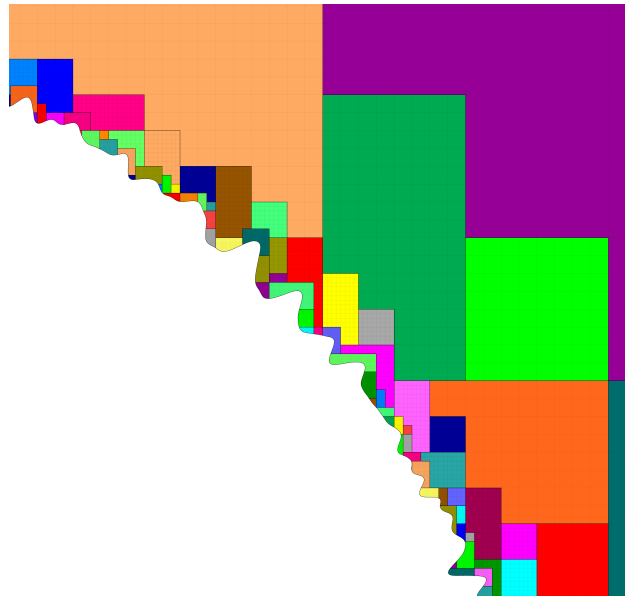

Fig. 3.1.2: Patch-based refinement (factor 4 between levels) of a complex surface. Each color shows a patch, which is a rectangular computational unit.
chombo-discharge uses an embedded boundary (EB) formulation for describing complex geometries. With EBs, the Cartesian grid is directly intersected by the geometry. This is fundamentally different from unstructured grids where one generates a volume mesh that conforms to the surface mesh of the input geometry. Since EBs are directly intersected by the geometry, there is no fundamental need for a surface mesh for describing the geometry. Moreover, Cartesian EBs have a data layout which remains (almost) fully structured. The connectivity of neighboring grid cells is still trivially found by fundamental strides along the data rows/columns, which allows extending the efficiency of patch-based AMR to complex geometries. Fig. 3.1.2 shows an example of patch-based grid refinement for a complex surface.